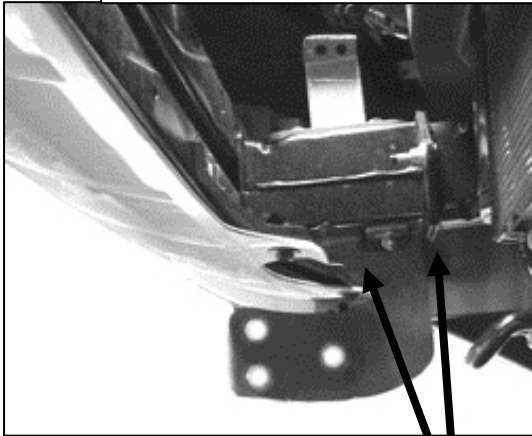

Figure 1
3. Line up holes on the Mounting Bracket with holes on the frame rail. Secure Mounting Bracket with the included (2) 8-1.25mm x 120mm Hex Bolts, (2) 8mm Nylock Nuts, and (4) 8mm Flat Washers (Figure 1 & 2). Do not tighten at this time.